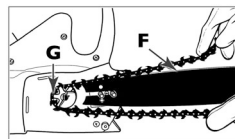

Fig. 3D
2. Place the chain over the sprocket (F) with drive links fitting between sprocket teeth. Guide the chain links into the groove (G) on the top side of the guide bar and around the nose. The saw chain will droop slightly on the lower part of the guide bar. (See Fig. 3D)
5. To fit the chain on the bar, turn the tension plate (D) counter-clockwise to the end. Install the chain and bar on the power unit, turn the tension plate (D) clockwise and then put the side cover (A) on. (Fig. 3D)